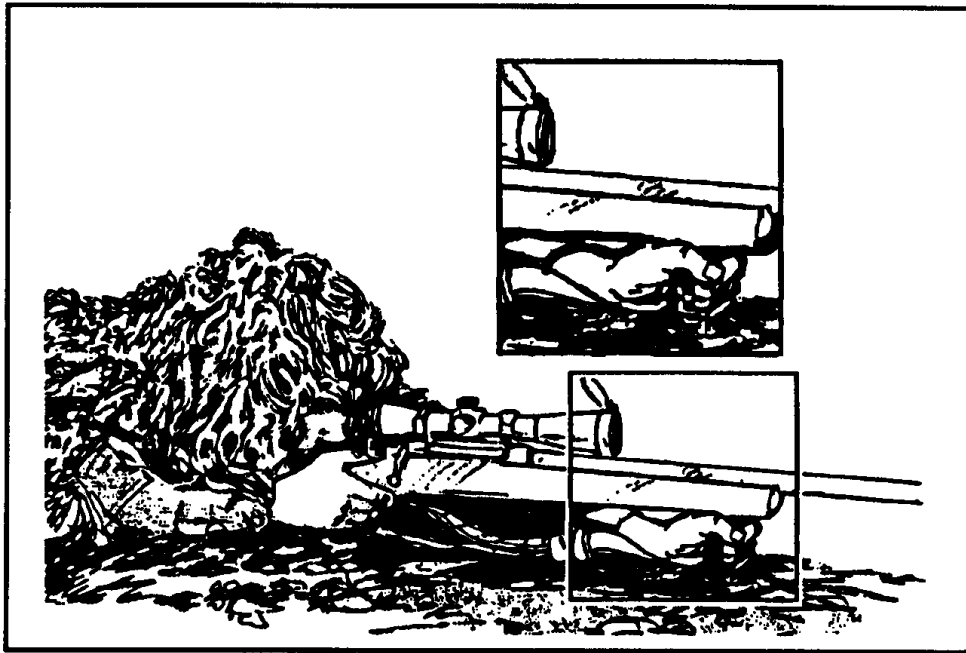

Figure 3-8. Hawkins position.
(6) Hawkins position. The Hawkins position (Figure 3-8) is a variation of the prone unsupported position. The sniper uses it when firing from a low bank or a depression in the ground, over a roof, or so forth. It cannot be used on level ground since the muzzle cannot be raised high enough to aim at the target. It is a low-profile position with excellent stability and aids concealment. To assume this position, the sniper uses the weapon's sling and proceeds as follows: